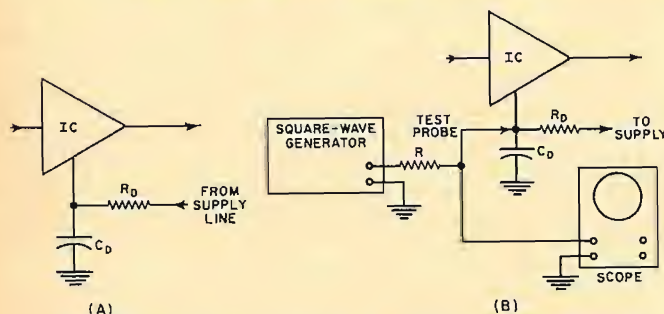

Fig. 2. (A) Decoupling network. (B) Bypass capacitor testing.
Fig. 2. (A) Frequency response with different bias currents showing the need for equalization. (B) Same as (A) but with outputs at low frequencies adjusted to same level. (C) Same as (A) but with the system equalized for a flat response when the bias has been adjusted to provide the maximum sensitivity at low signal frequencies.